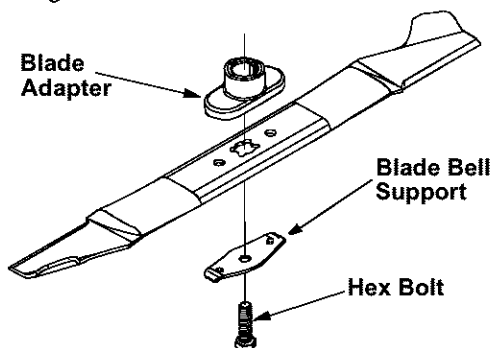

Figure 13
- Remove the bolt and blade bell support which hold the blade and adapter to the engine crankshaft. See Figure 13.